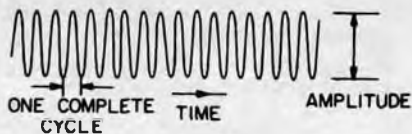
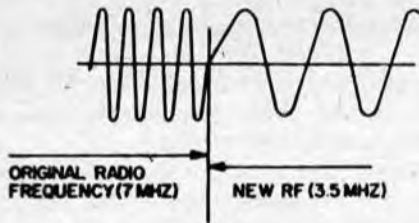
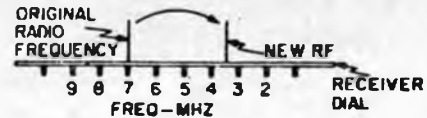

Fig. 1—Unmodulated carrier (RF) wave.
Fig. 4—Simplified frequency modulation of the RF carrier wave.
Fig. 5—If the frequency modulation were a simple change from one RF carrier frequency to another, an AM receiver could receive it if returned.
**Introducing the Carrier.** A radio wave broadcast from the antenna of a transmitter is, in the absence modulation by speech or music, an unchanging, constant sine wave, as shown in Fig. 1. It is as constant and as unchanging as the steeple of the Old North Church, and conveys no more information than a steeple. It simply gives you something to monitor for the possible later appearance of a signal.
The carrier may be shown as a simple sine wave, as in Fig. 1.
**AM and FM.** Looking again at Fig. 1 you can see that a carrier has two obvious characteristics—its height, or
The other obvious characteristic of the carrier wave of Fig. 1 is its *frequency*. We can also modulate this characteristic, as shown in Fig. 4. Here, instead of a sudden change in amplitude, there is a sudden change in frequency, from 7 MHz to 3.5 MHz. This is a very simple form of FM, and can also be used to convey simple messages. Since the drop in frequency represents a shift in the carrier's location on the dial, as shown in Fig. 5, two receivers, one tuned to 7 MHz and the other to 3.5 MHz, could detect this shift in frequency, and the listener could interpret it as a signal, according to a pre-arranged code.